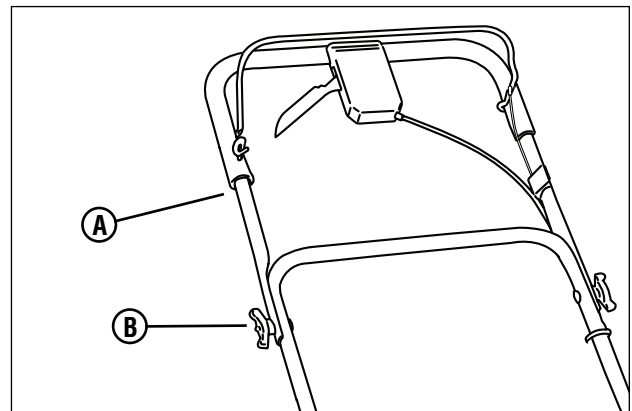

Figure 2: Unfolding the upper handle
4. Put the upper handle **(A, Figure 2)** in the operating (upright) position. Tighten the wingnuts **(B)**.